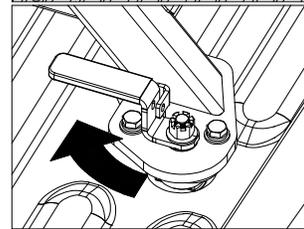

FIGURE C2:
3. **Prepare to adjust latch tension.** Once the base is in place, remove the cotter pins from each of the four castle nuts. Engage the cams with each attachment point by turning the latch handles back to their locked position, see Figure C2. If a handle will not turn easily, loosen the castle nut until the cam will freely turn and engage the attachment point.